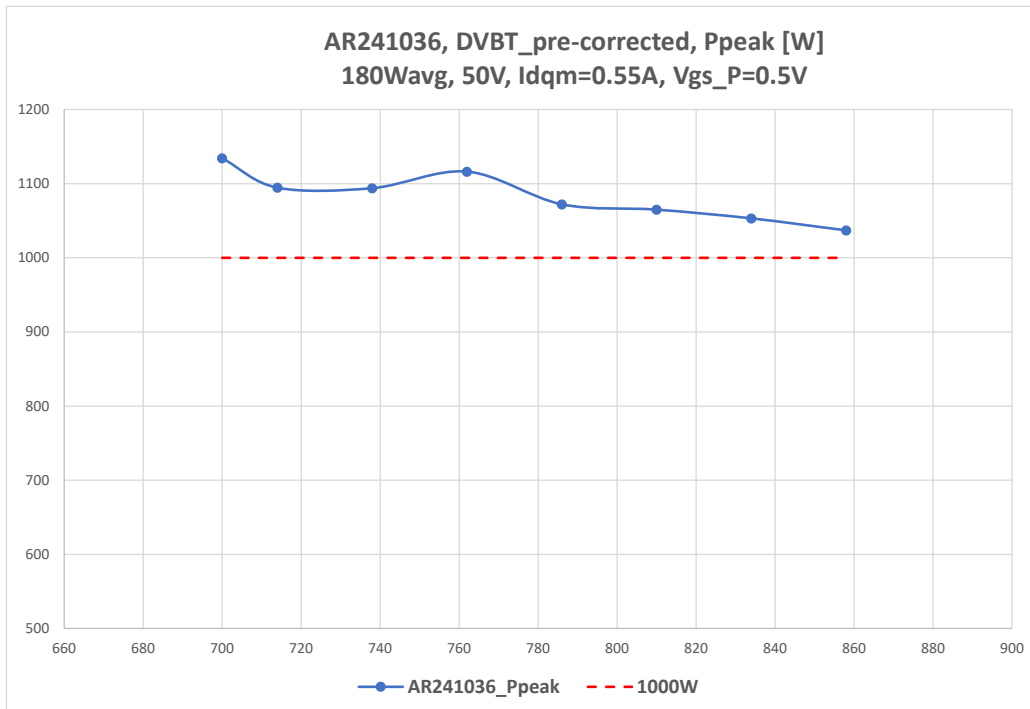

Figure 9 DVBT, Ppeak Pre-corrected values
- Figure 9 DVB-T, Ppeak..... Pre-corrected values 10